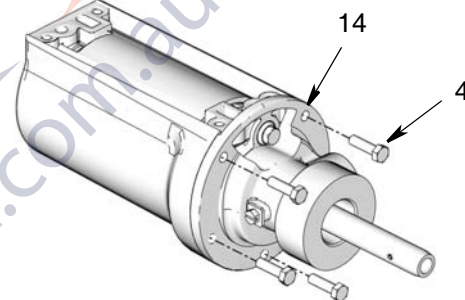

Fig. 41
8. To ensure there is a proper seal between the air valve and manifold, loosen all 5 screws (4) approximately 1/8 to 1/4 turn (Fig. 41). These screws will be torqued **AFTER** the air valve (40) is installed.